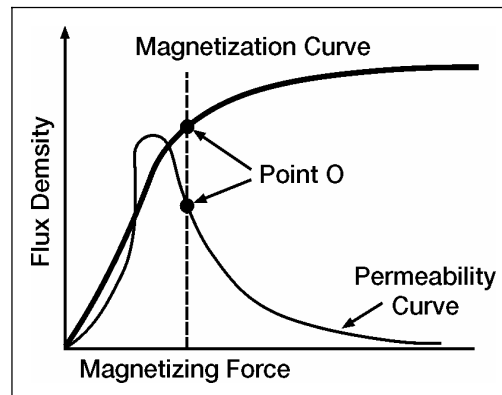
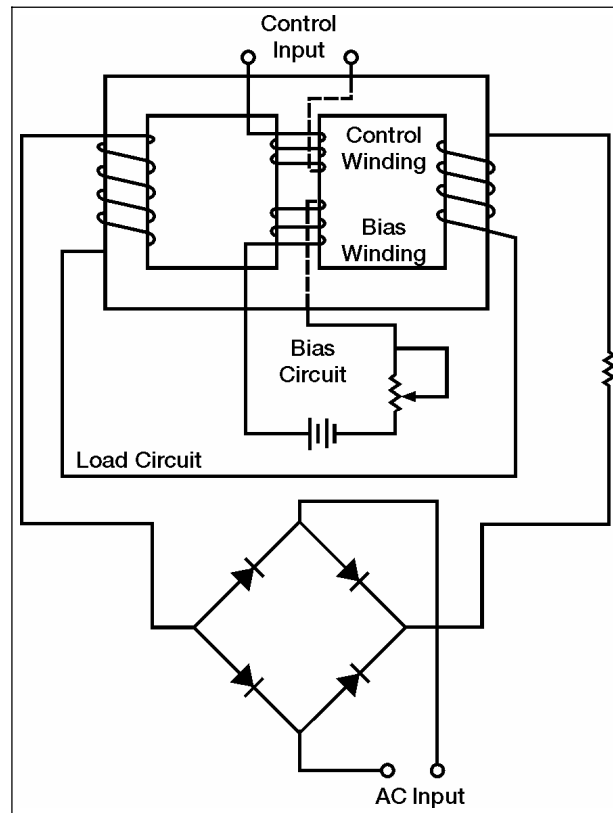

Figure 7-31. Magnetization and Permeability Curves With Operating Point
Figure 7-37. Full-wave Magnetic Amplifier With Bias Winding
7-117. You now have seen the basic operation of a saturable-core reactor. There is one more area to discuss before moving on to the circuitry of a magnetic amplifier. There is a point upon the magnetization curve where the saturable-core reactor should be operated. The ideal operating point is the place in which a small increase in control current will cause a large increase in output power and a small decrease in control current will cause a large decrease in output power. This point is on the flattest portion of the permeability curve (after its peak). Figure 7-31 shows the magnetization and permeability curves for a saturable-core reactor with the ideal operating point (point “0”) indicated. Notice point “0” on the magnetization curve. The portion of the magnetization curve where point “0” is located is called the **KNEE OF THE CURVE**. The knee of the curve is the point of maximum curvature. It is called the “knee” because it looks like the knee of a leg that is bent. Saturable-core reactors and magnetic amplifiers should be operated on the knee of the magnetization curve.
7-128. So far the control circuit of the magnetic amplifier has only been shown with DC applied to it. Magnetic-amplifier control circuits should accept AC input signals as well as DC input signals. As shown earlier in Figure 7-31, a saturable-core reactor has an ideal operating point. Some DC must always be applied to bring the saturable core to that operating point. This DC is called BIAS. The most effective way to apply bias to the saturable core and also allow AC input signals to control the magnetic amplifier is to use a bias winding. Figure 7-37 shows a full-wave magnetic amplifier with a bias winding.
7-129. Figure 7-37 shows the circuit where the bias circuit is adjusted to set the saturable-core reactor at the ideal operating point. Input signals, represented by the AC source symbol, are applied to the control input. The true power of the load circuit is controlled by the control input signal (AC).